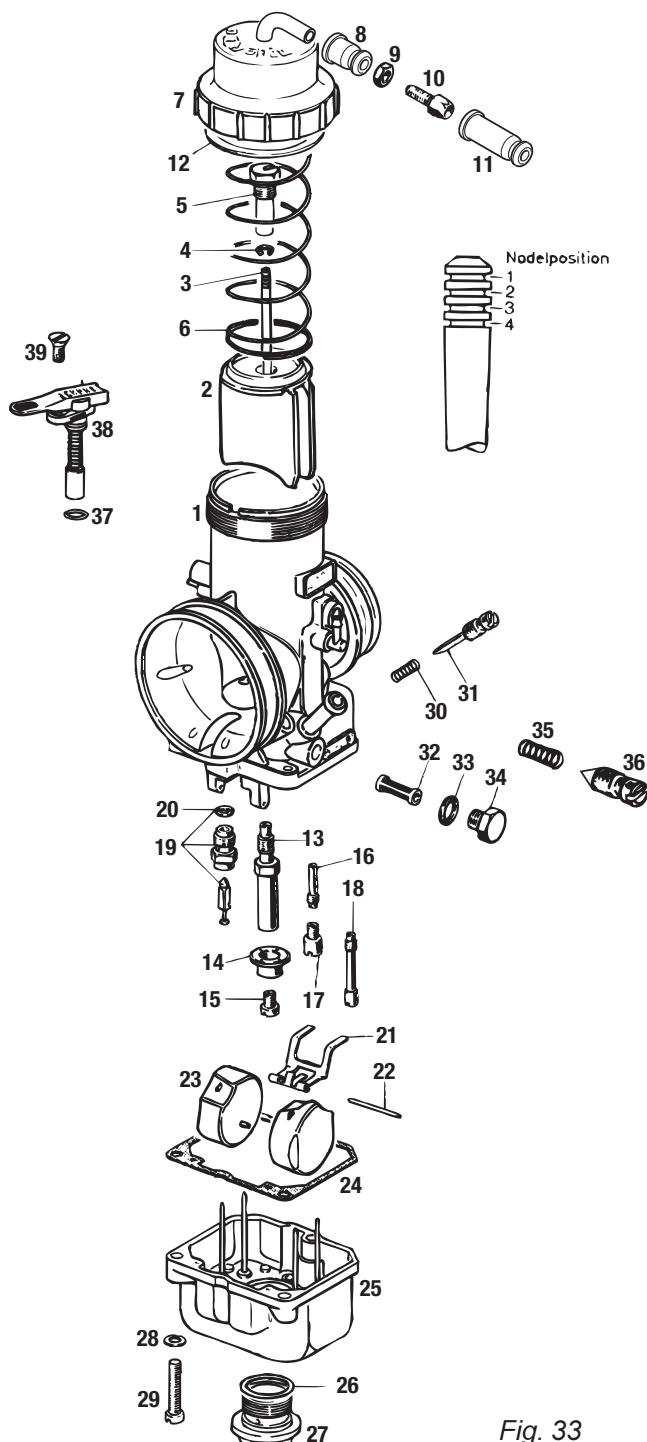

Fig. 33
- ⇒ Disassemble the carburetor into the parts shown in Fig. 33 and clean the parts with fuel.